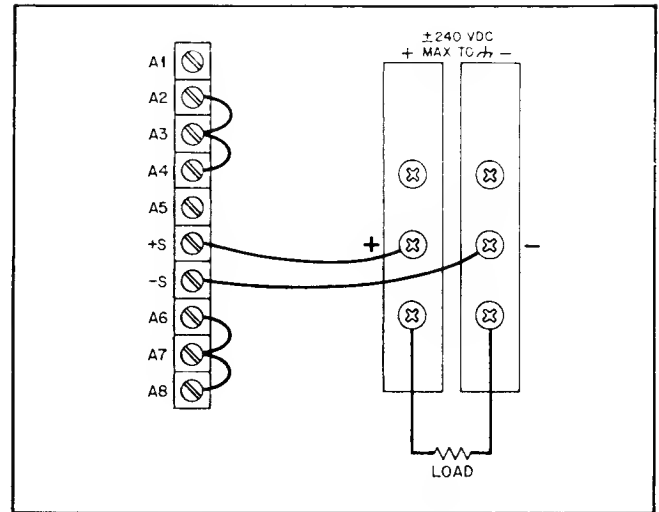
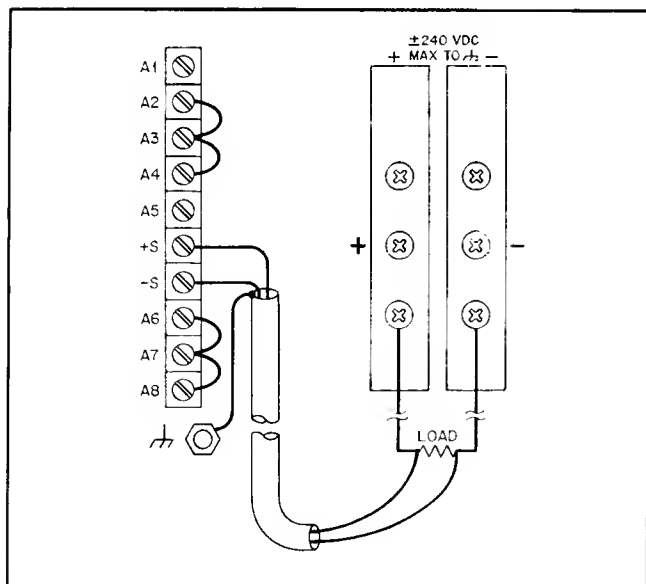

Figure 3-3. Normal Strapping
Figure 3-5. Remote Sensing
a. Ensure that rear terminal board straps are connected as shown in Figure 3-3, but do not connect load. Check that rear-panel label indicates unit is set for line voltage to be used. If it is not, refer to Section II, Line Voltage Option Conversion. If unit is equipped with System Option 002 ensure that option cable is disconnected from rear-panel option connector before proceeding.
b. Ensure that CURRENT control (8) is rotated clockwise at least two turns and OVP ADJUST potentiometer (10) (screwdriver adjust) is fully clockwise.
c. Press pushbutton LINE switch (1) on (pushbutton in) and observe that green LINE indicator turns on and that fan operates.
d. Turn VOLTAGE control (3) through output voltage range of unit as indicated on voltmeter (12). Green VOLTAGE light (4) should be lit across entire range indicating that supply is in constant voltage mode.
e. Check overvoltage circuit by turning OVP ADJUST control counterclockwise until output voltage drops. Output voltage should drop to ≈ 0 volts and red OVP (9) and OUTPUT UNREGULATED (5) indicators should light.
h. Turn supply back on and rotate CURRENT control (8) through output current range of unit as indicated on ammeter (11). Green CURRENT light (7) should be on across entire range indicating that supply is in constant current mode.
3-20 The power supply was shipped with the proper rear-panel strapping connections made for constant voltage/constant current operation with local sensing and local programming. This strapping pattern is illustrated in Figure 3-3. By means of the front-panel voltage and current controls, the operator selects either a constant voltage or a constant current output as described in Paragraphs 3-27 or 3-29. Whether the supply functions in the constant voltage or constant current mode depends on the settings of the VOLTAGE and CURRENT controls and on the value of the load resistance.
3-38 Because of the unavoidable voltage drop developed in the load leads, the normal strapping pattern shown in Figure 3-3 will not provide the best possible voltage regulation at the load. The remote sensing connections shown in Figure 3-5 improve the voltage regulation at the load by monitoring the voltage there instead of at the supply's output terminals. (The advantages of remote sensing apply only during constant voltage operation.) When using remote sensing, turn off the power supply before changing the rear-panel straps, sense leads, or load leads. The following paragraphs discuss some precautions that should be observed when making a remote sensing installation.